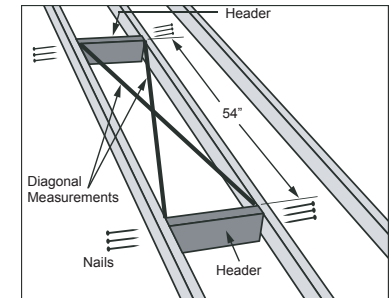

Figure 25
Make a rough opening to the size as required in Table 3 ensuring that the dimensions of the diagonals of the frame are the same as illustrated in Figure 25.
See Figure 25.
- Locate headers in front and rear of the opening as shown in Figure 25.